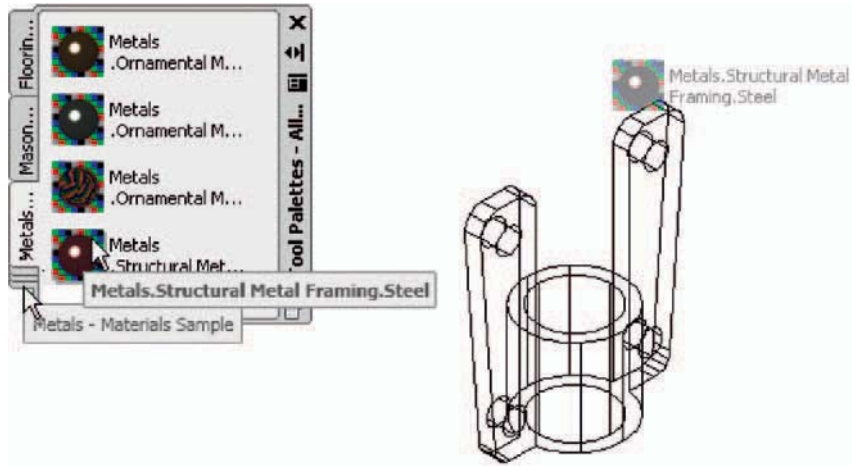

Fig. 15.33 Metals, Structural Metal Framing, Steel applied to the model
1. In the **Metals – Materials Library** palette select **Metals, Structural Metal Framing**, Steel and apply it to the 3D model (Fig. 15.33).